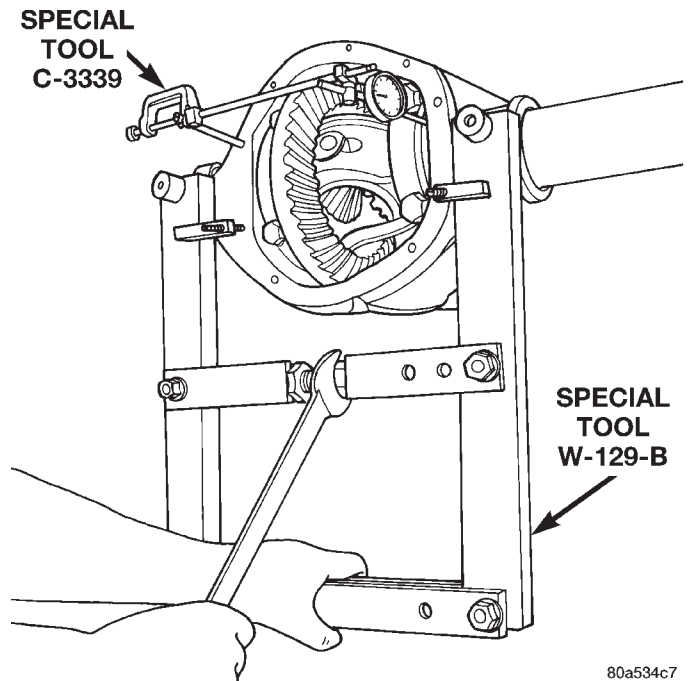
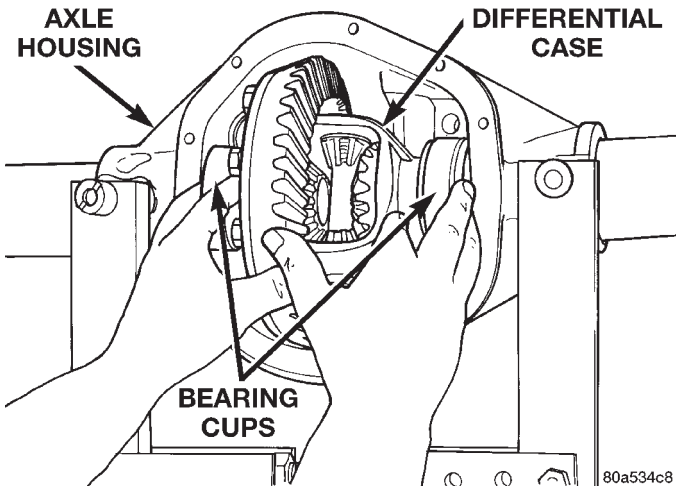
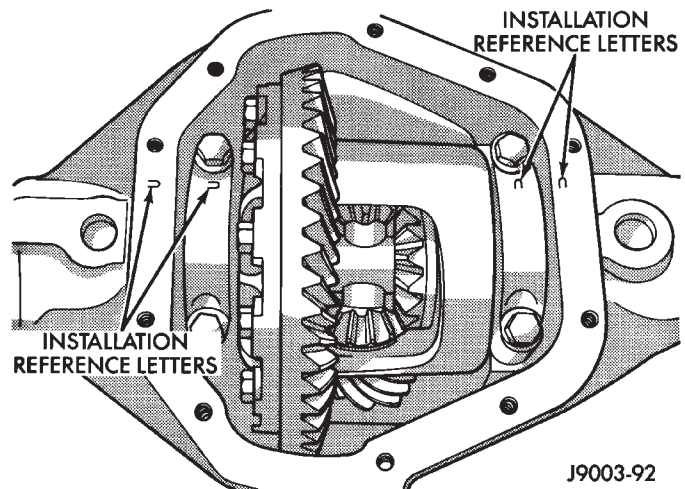

Fig. 26 Spread Axle Housing
Fig. 27 Differential Case Removal
Fig. 29 Differential Bearing Cap Reference Letters
(9) Spread the housing enough to remove the differential case from the housing. Measure the distance with the dial indicator (Fig. 26).
(10) Remove the dial indicator.
(11) While holding the differential case in position, remove the differential bearing cap bolts and caps.
(12) Remove the differential from the housing. Ensure that the differential bearing cups remain in position on the differential bearings (Fig. 27).
(3) Spread the housing enough to install the case in the housing. Measure the distance with the dial indicator (Fig. 26).
(4) Remove the dial indicator.
(5) Install differential case in the housing. Ensure that the differential bearing cups remain in position on the differential bearings and that the preload shims remain between the face of the bearing cup and the housing. Tap the differential case to ensure the bearings cups and shims are fully seated in the housing.
(6) Install the bearing caps at their original locations (Fig. 29).